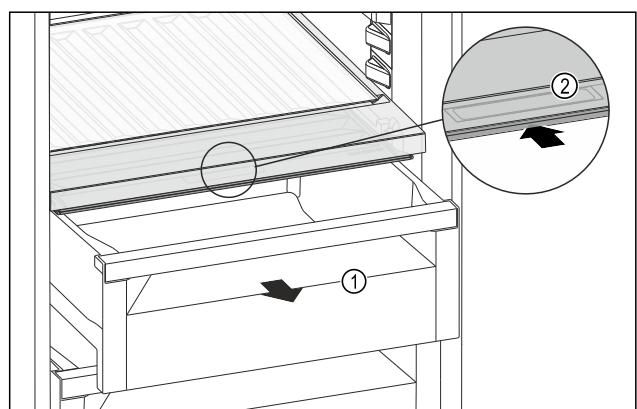

Fig. 128
- ▶ Pull out the drawer Fig. 128 (1).
- ▶ Grasp the recessed grip Fig. 128 (2) on the compartment lid and push the compartment lid backwards at the same time.